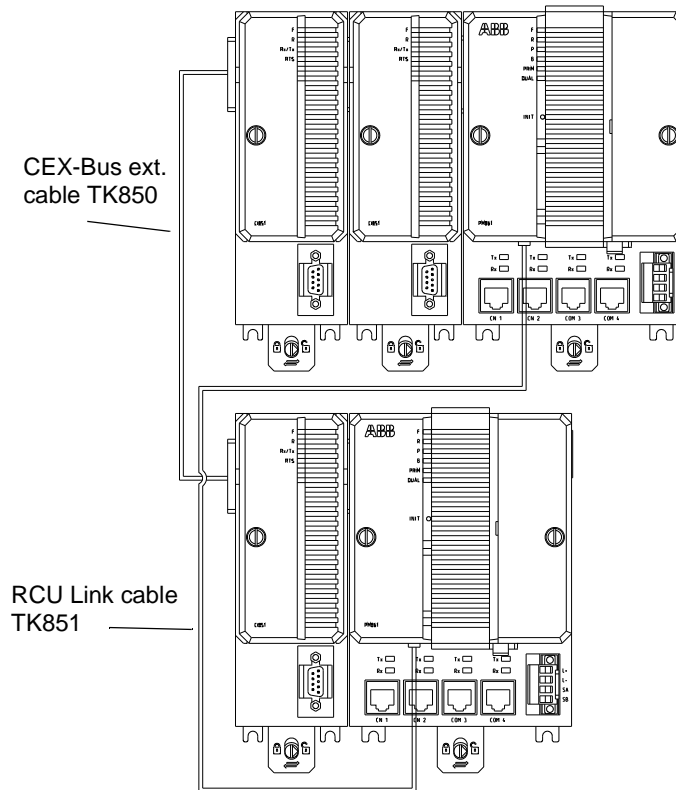

Figure 2.14: Connection of CPU redundancy
4. If BC810 is used, connect the TK851 cable to the two BC810 (Figure 2.16 on page 97). If BC820 is used, connect the TK857 cable to the two BC820 (Figure 2.22 on page 105). If BC810/BC820s are not used, mount the CEX-Bus extension cable TK850 to the units at farthest away from the processor units or, if no units are mounted, directly to the CEX-Bus on the processor unit. The CEX-Bus extension cable must be connected to both CPUs whether or not there are any other CEX-Bus units (Figure 2.14 on page 92).
4. If BC810 are used, connect the TK851 cable to the two BC810. If BC810 are not used, mount the CEX-Bus extension cable TK850 to the units at farthest away from the processor units or, if no units are mounted, directly to the CEX-Bus on the processor unit. The CEX-Bus extension cable must be connected to both CPUs whether or not there are any other CEX-Bus units (Figure 2.14 on page 92).